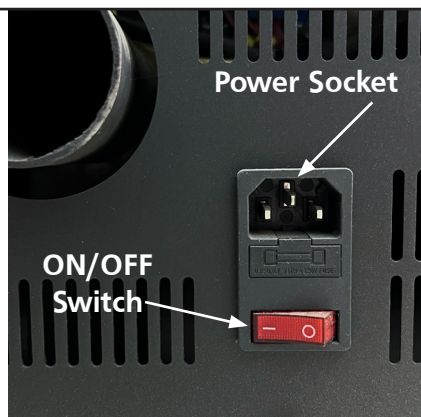

Figure 17 Power Socket/ON/OFF Switch
1. Plug power cord into socket on the rear bottom of stove and press the red ON/OFF toggle switch above it to ON. See Figure 17.